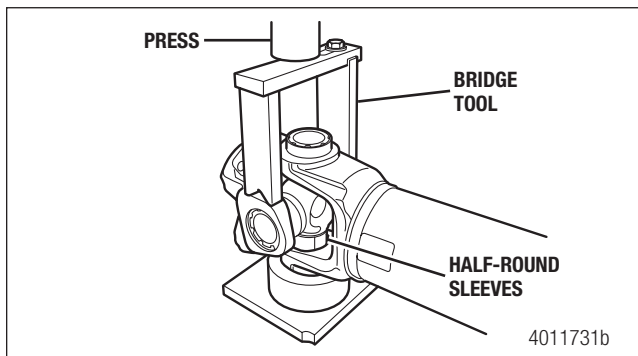

Figure 5.73
8. Install the drive flange assembly back into the bearing cup receiver. Refer to Section 16 for a tool drawing, Figure 5.73.